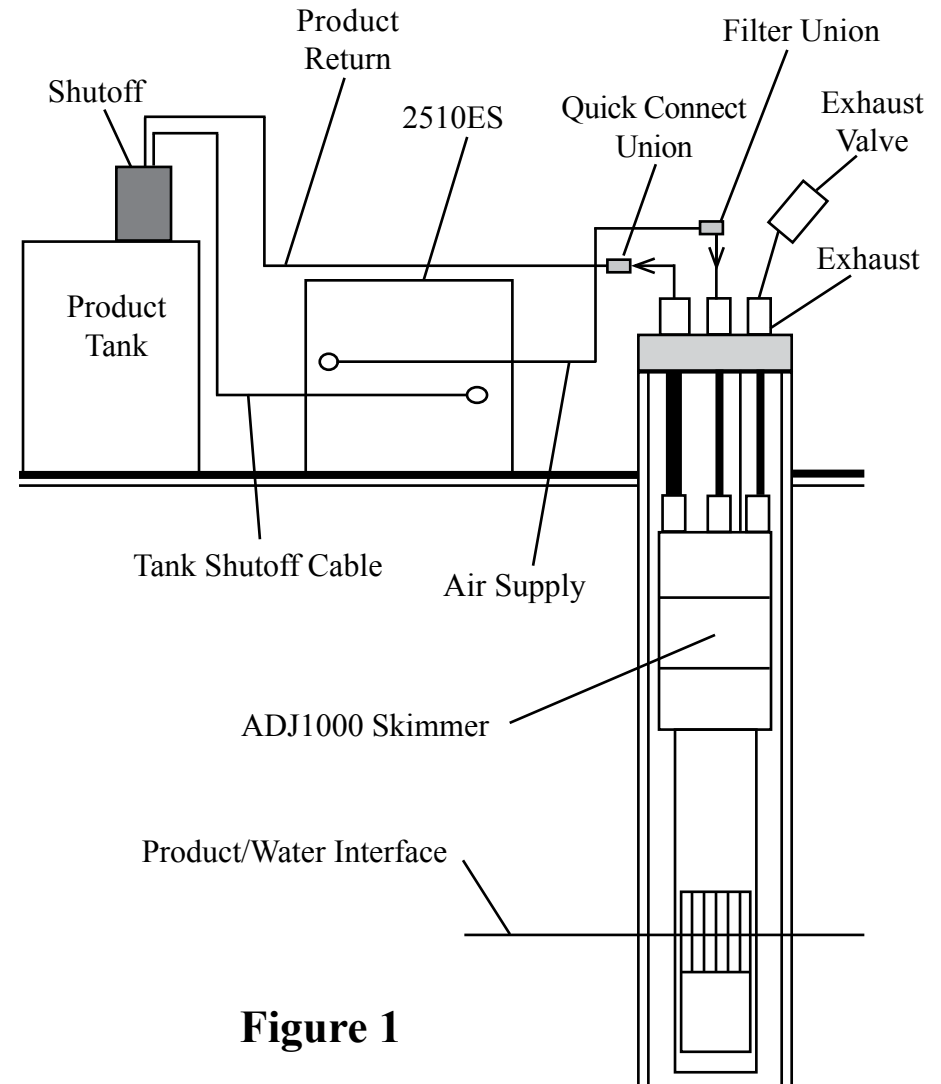
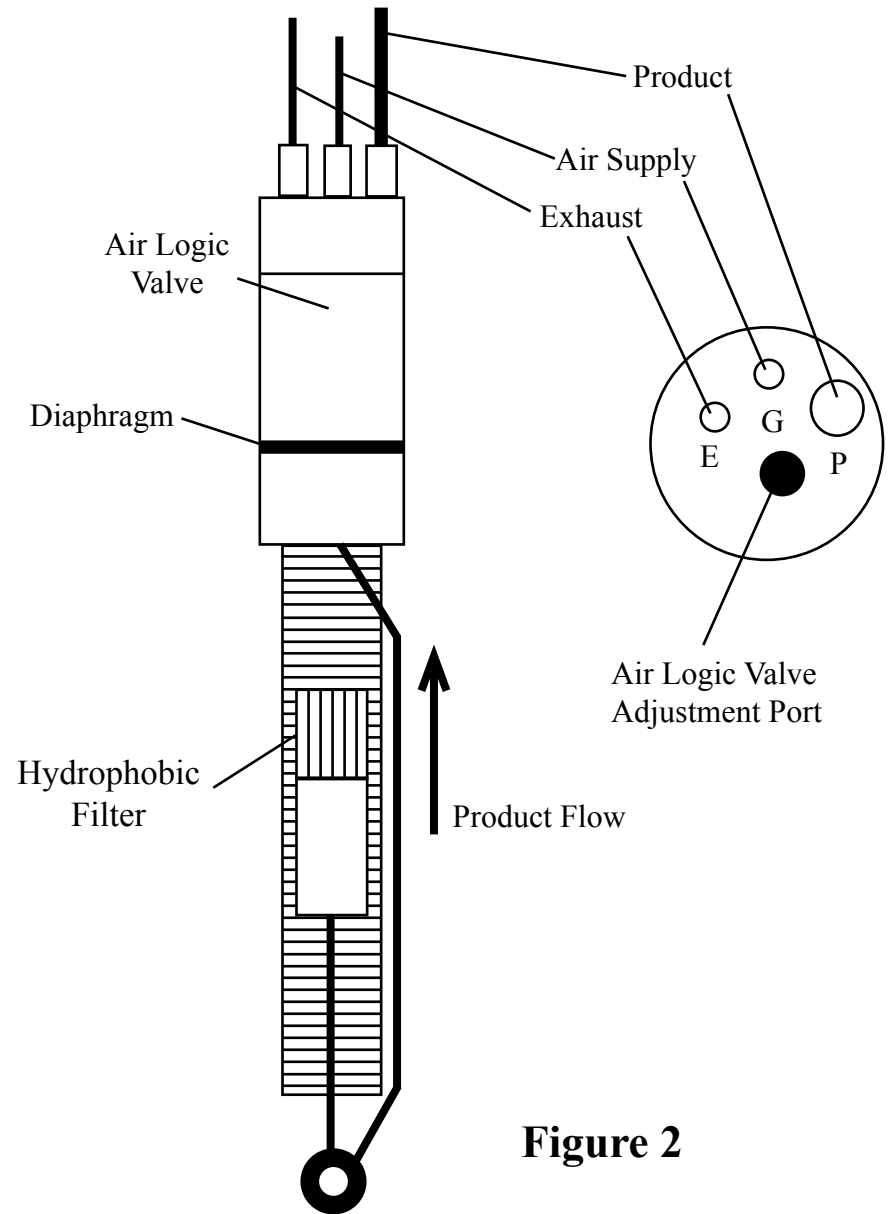

Figure 1
Figure 2
The system (Figure 1) relates to floating hydrocarbon recovery in wells four inches in diameter and larger. This system includes: an intrinsically safe ADJ1000 pneumatic Smart Skimmer (Figure 2) which removes only the product to a sheen down to 200 feet deep; and a electronic Control Station Model 2510ES which operates the skimmer intermittently, records run time, and has a high level tank shutoff.
STEP 1. Place electronic Control Station Model 2510ES (Figure 1) near the air source, power source, and holding tank if possible. **CAUTION:** The standard electronic controller is NOT intrinsically safe. If this controller must operate in a CLASS I area, the XITECH Model 2550ES CLASS I controller will be required.
STEP 2. Install holding tank shutoff assembly into holding tank (a 2" standard pipe inlet will be required in the holding tank). The level of product in the holding tank can be set by raising or lowering the liquid level float switch rod. Plug the high level shutoff switch cable connector into the left end of the controller (Figure 1).
STEP 3. Attach power line from the AC power source to the right end of the control station (Figure 1). Turn on the controller power switch. If the red "Product Tank Full" light stays on, you have a problem with tank shutoff wiring. Turn off the power switch and re-check the tank shutoff wiring. If the light continues to stay on, call the factory.
STEP 7. Position the skimmer and well cap on the ground near the well. **NOTE:** If the skimmer is over 60 feet deep, use a vented design skimmer. Cut a length of 3/8" OD air supply tubing to cover the distance from the top of the well down to water/product interface, plus 5 feet. Slide enough tubing through the well cap and attach the end of the tubing to the top of the skimmer tube fitting labeled "G" (Figure 2). If the product thickness is greater than 1 foot, position the skimmer's "Black Reference Line" on skimmer well screen 1 foot below top of product. If the product thickness is less than 1 foot, position the skimmer's "Black Reference Line" on skimmer well screen at the water/product interface.
STEP 8. Cut a length of 1/2" OD product tubing same length as the air supply line. Install 1/2" OD product tubing through the well cap tube fitting labeled "P" (Figure 2). Slide enough tubing through the well cap and attach the end of the tubing to the top of the skimmer tube fitting labeled "P". **CAUTION:** Do not kink the tubing.